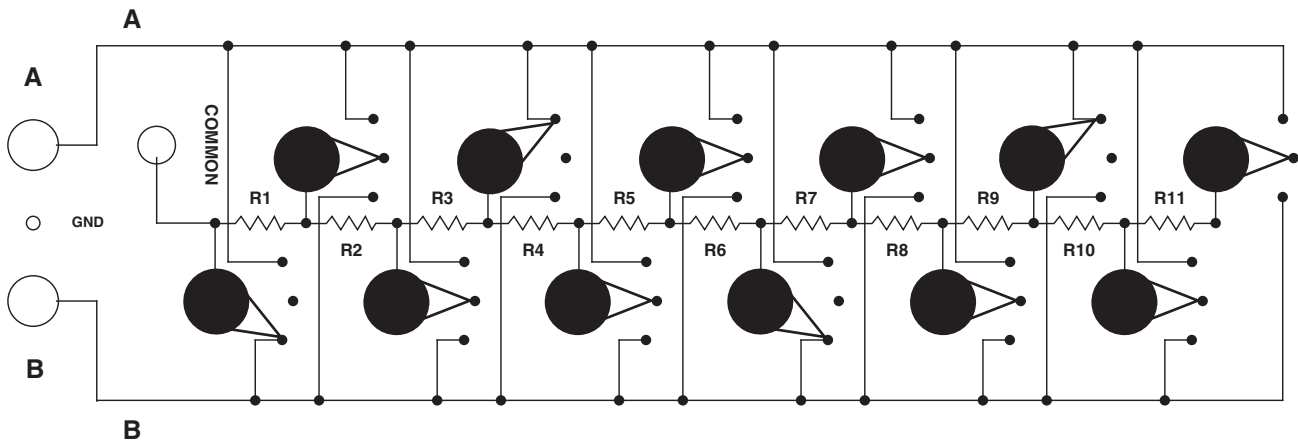

Figure 4-5: Resistance = $1R$: three groups of three, series-parallel
Note: Although this is the easiest way to get $1R$, the best method is depicted in Figure 4-5. The advantage of the configuration shown in that figure is that it uses the combined value of nine resistors, and allows the use of the same adjustment error.
- For a composite value of $1R$ spread over 9 resistors (which allows the use of the same adjustment error), see Figure 4-5.
This average or net deviation remains constant for all combinations. Thereby, the standard is effectively “transferred” with the same deviation plus the transfer accuracy of the unit to another decade, 10R or 10 MΩ in this example. It may also be transferred to the single step R value with the series parallel combination. See Figure 4-5.